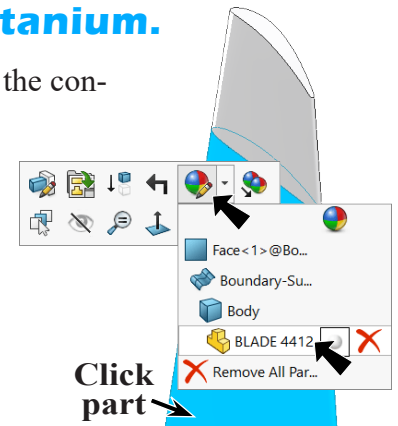

Fig. 98
Step 1. Click the part to select part, click **Appearances Callout**  on the context toolbar and click **BLADE 4412** , Fig. 98.